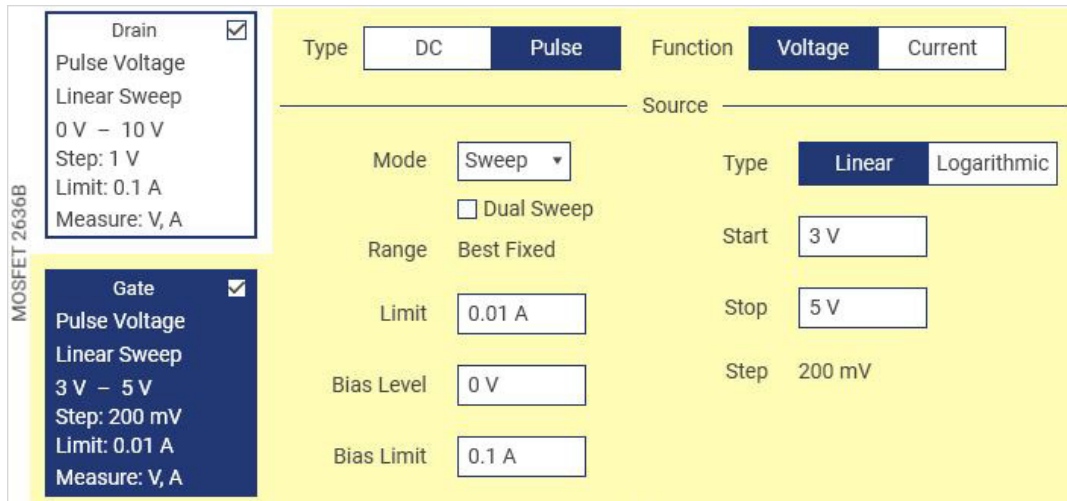

Figure 13: Apply gate source type and output settings.
7. Apply the following Gate source changes (illustrated in **Figure 13**):